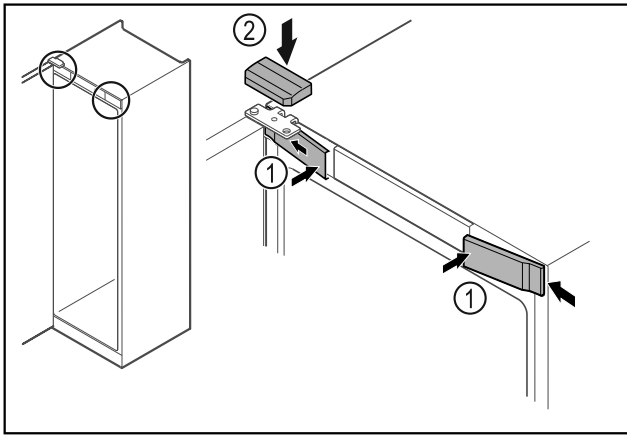

Fig. 35 \*
- ▶ Hook in the front covers Fig. 35 (1) on the side and snap them into place.\*
- ▶ Snap on the top cover Fig. 35 (2) from above.\*